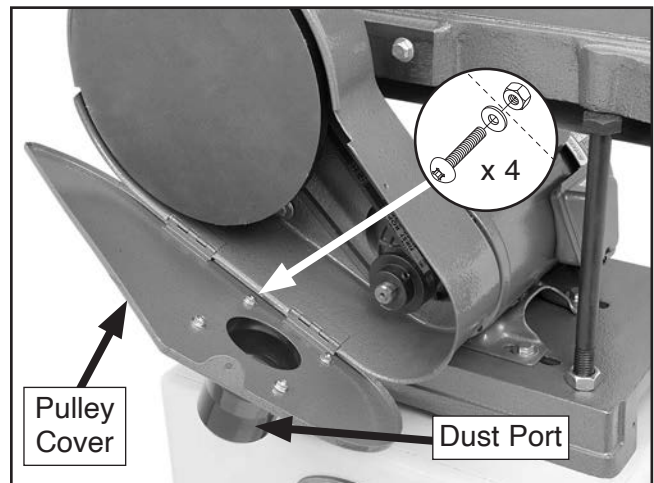

Figure 33. 2½" dust port installed.
25. Install the 2½" black plastic dust port onto the pulley cover with (4) 10-24 x ¾" Phillips head screws, 10-24 hex nuts, and #10 flat washers, as shown in **Figure 33**.